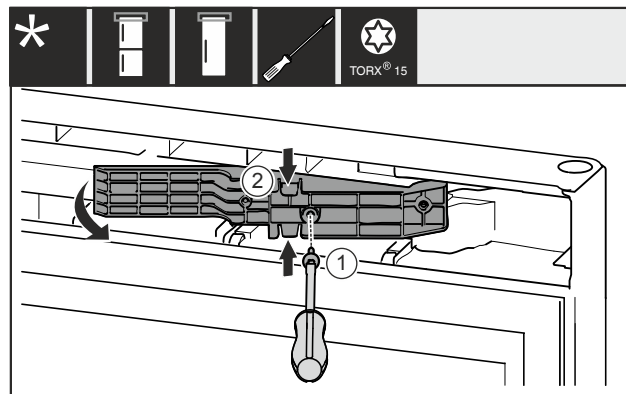

Fig. 16 *
- Remove the screw Fig. 16 (1)*
- Gently press the adapter piece Fig. 16 (2) together at the top and bottom and pull it out.*